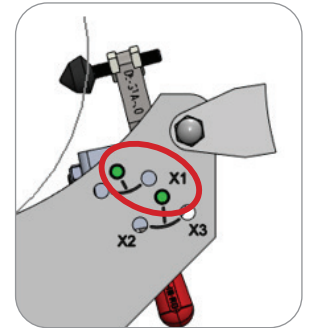

Figure 4a
9. Ensure Universal Stand is configured for X-1. (Figure 4a)